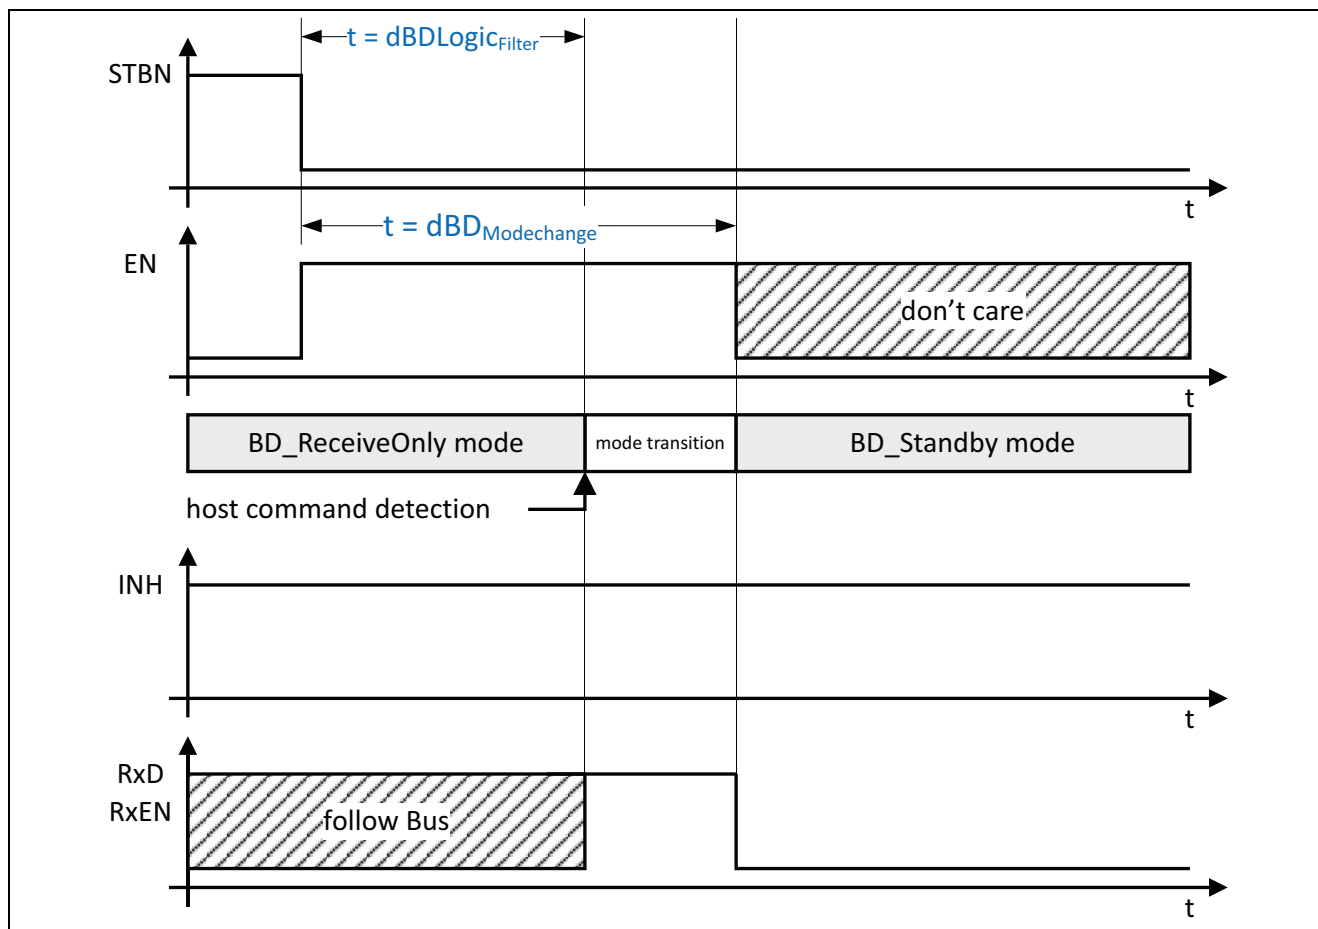

Figure 28 Changing over to BD_Standby, with an active wake-up flag
- 10) The BD_GoToSleep command cannot be executed while the wake-up flag is active (see Figure 28). The TLE9221SX changes over directly to BD_StandBy mode.
Applying the BD_GoToSleep host command to the TLE9221SX, while the wake-up flag is active, changes the operating mode directly to BD_Standby mode. The RxD and RxEN outputs are set to “low” and indicate a previous wake-up event (see Figure 28 and Table 14).